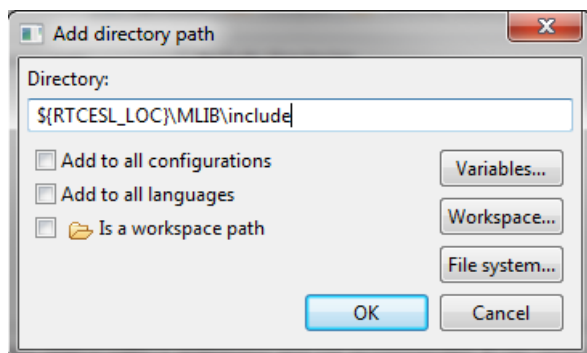

Figure 1-12. Library include path addition
20. Click the Add... button on the right, and a dialog appears. See Figure 1-12.